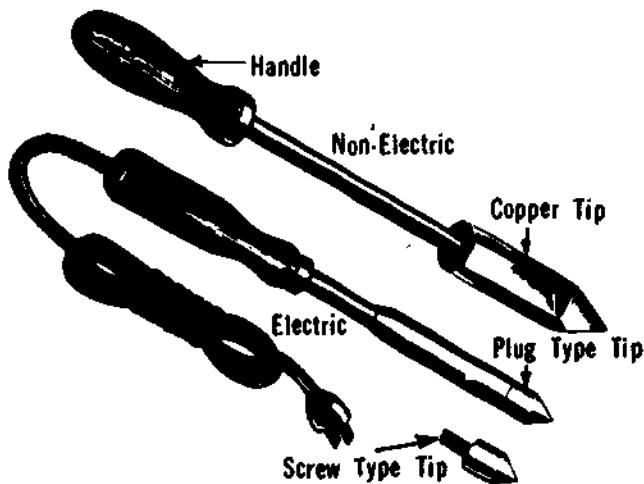
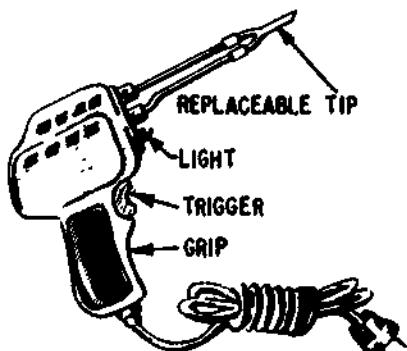

Figure 1-122. Soldering Irons
Figure 1-123. Electric Soldering Gun
b) Typical non-electric and electric soldering irons (Figure 1-122) and a soldering gun (Figure 1-123) are shown.